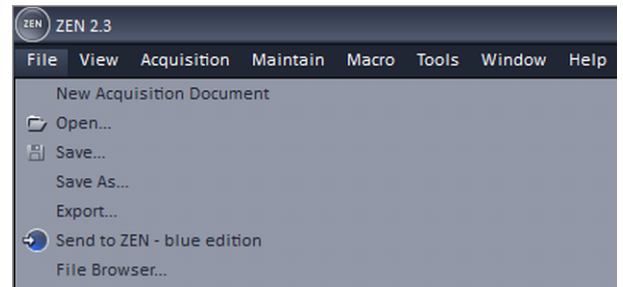

Fig. 184 File menu, Save As function
- For saving (Fig. 184) the images together with coordinates and defined regions of interest or points of interest use the .czi file format.